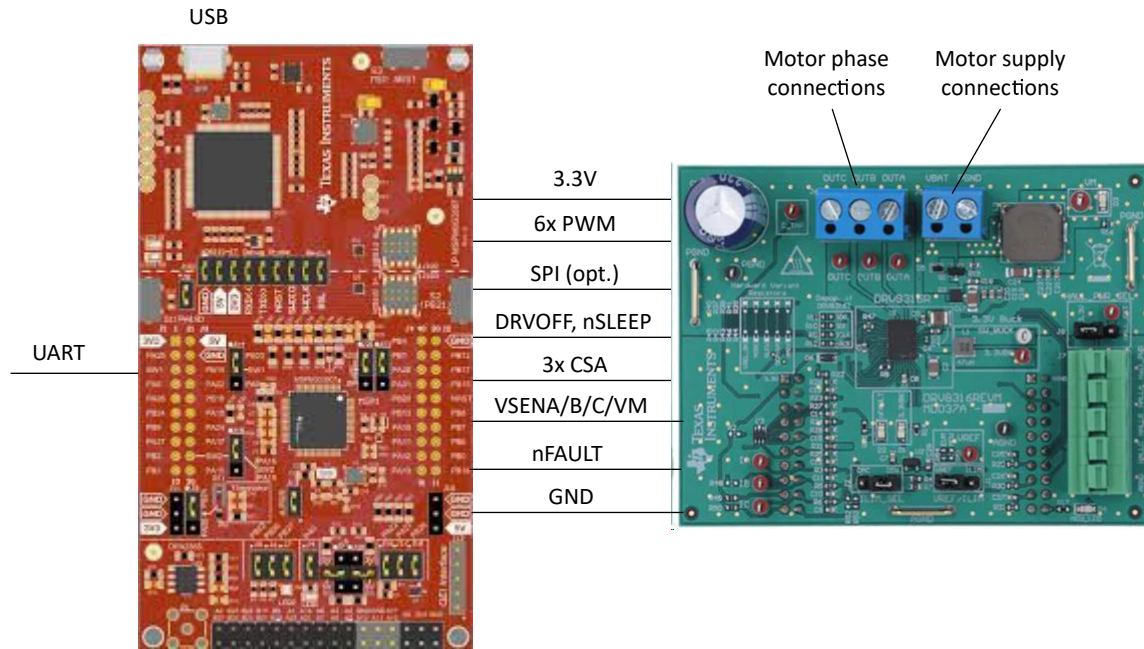

Figure 2-4. MSPM0 LaunchPad Kit and DRV83xx EVM External Configuration
2. Make the inter-device connections from the MSPM0 LaunchPad kit to the DRV83xx EVM by mating the EVM to the LaunchPad kit or using jumper wires as shown in Figure 2-4. See Section 2.1.1 for hardware user guide connection details.